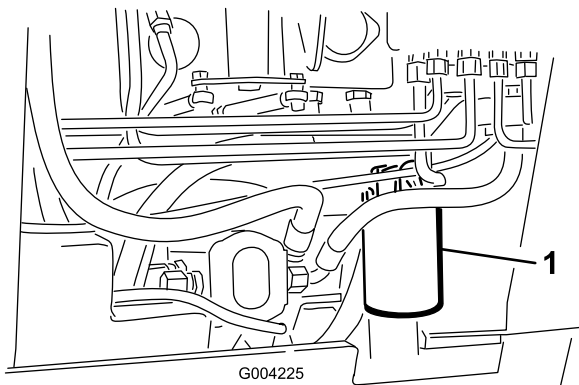

Figure 56
4. Place a drain pan under the filter (Figure 56).
5. Remove the old filter (Figure 56) and wipe the surface of the filter adapter gasket clean.
7. Install the replacement hydraulic filter onto the filter adapter (Figure 56). Tighten it clockwise until the rubber gasket contacts the filter adapter, then tighten the filter an additional 3/4 turn.